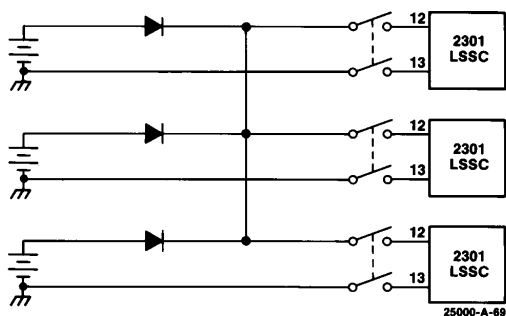

Figure 4. High Voltage Selector, External Diode
2. Both of the control's paralleling lines should be disconnected from the paralleling line bus when the generator set is dropped from the line. See item 1 of "Switching".
3. High supply voltage selector: When operating a number of controls in load sharing applications which have separate power sources and a common return, use a high supply voltage selector. See Figures 4, 5, and 6. This ensures optimum load sharing accuracy and minimizes system sensitivity to noise on the power supplies. The current rating for each diode should be 1 amp times the number of gray LSSCs plus 0.4 amp times the number of beige LSSCs in the system. This scheme will automatically select the battery with the highest voltage and use it to power all units. To remove power from any control, interrupt the power to both positive and negative power supply wires.